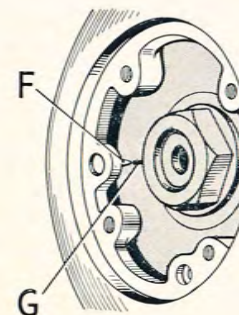

Fig. 10.
Provision is made on all engines for the use of this device, comprising a pointer (F) Fig. 10, on the interior of the chaincase cover and marker line (G) on the alternator rotor, both of which are exposed after removal of the circular cover on the front of the chaincase. The strobelight must be connected in accordance with the manufacturer's instructions, and it is important to note that an independent battery must be used for this operation, not the one on the machine.